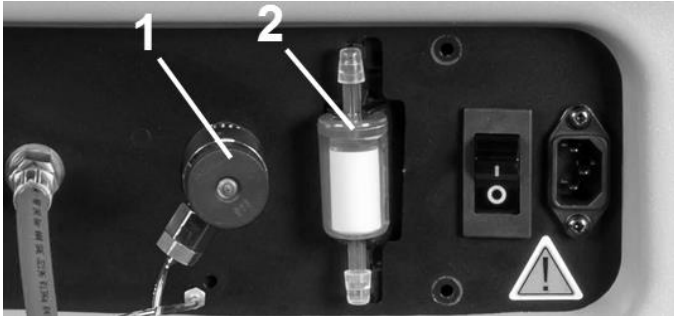

Fig. 10: Refrigerant identification unit
- Remove staples and remove the carton (Fig. 10)